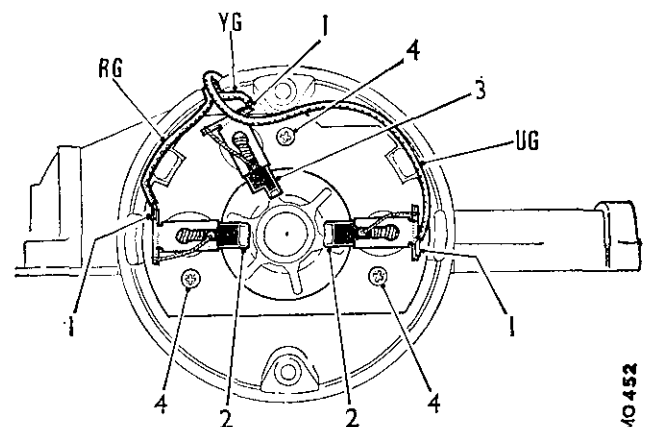

Fig. Nb.9
- (20) Examine the brush gear assembly, which must be replaced before either of the main brushes is worn to the minimum length of $\frac{3}{8}$ in. (5 mm.), or the narrow section of the third brush (two-speed models) is worn down to the full width of the brush (see Fig. Nb.9).
- (21) Check that the brushes move freely in the boxes and test the brush spring pressure with a push-type gauge. The gauge reading should be 5 to 7 oz. (140 to 200 gm.) when the bottom of the brush is level with the end of the slot in the brush box (see Fig. Nb.9). Renew the brush gear assembly if the springs are unsatisfactory.
- (22) Test the armature for open- or short-circuits. Use a mains test lamp of 110 volts and 15 watts and renew the armature if faulty.
- (23) Examine the gear wheel for damage or excessive wear. Renew if necessary.
- (24) Reverse the dismantling procedure in (13) to (19), noting the following points.
- (a) If either the brush gear or switch assembly requires replacing, unsolder the motor supply leads at the brush boxes. If a new switch is to be fitted to a single-speed motor remove the third wire, yellow and green, at the switch terminal. Use high-melting-point solder to re-connect the leads to the brush boxes, in the order shown in Fig. Nb.9, when refitting the new assembly(ies); ensure that the leads are inside the recess in the switch unit moulding when refitting it to the gearbox.